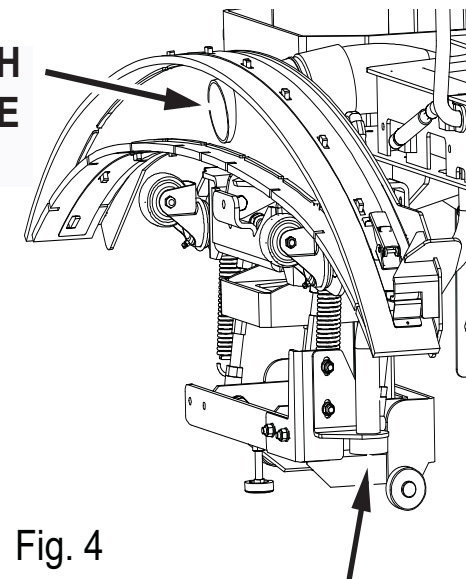

Fig. 4
10. Back flush the hopper vacuum hose located under the rear bumper to clear any debris from the vacuum hose. (See Fig. 4)